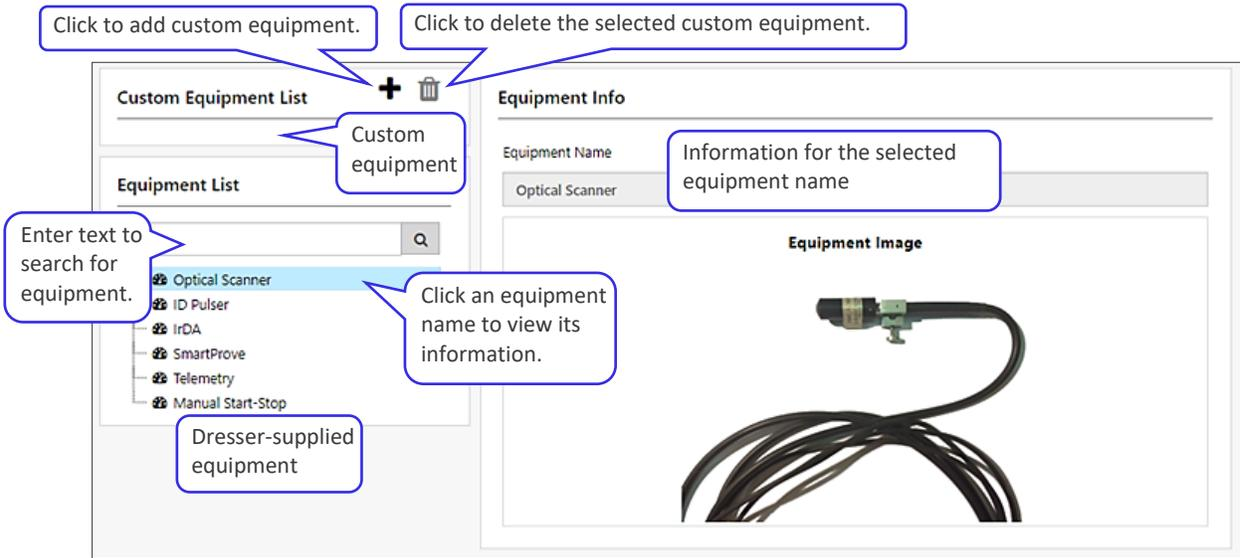

Figure 59: Equipment Configuration screen
The Equipment Configuration screen displays (Figure 59) and has the following sections:
To create custom test equipment, perform the following steps in the Equipment Configuration screen (Figure 59):
1. Click the equipment to modify in one of the equipment lists in the Equipment Configuration screen (Figure 59), and make the needed changes.